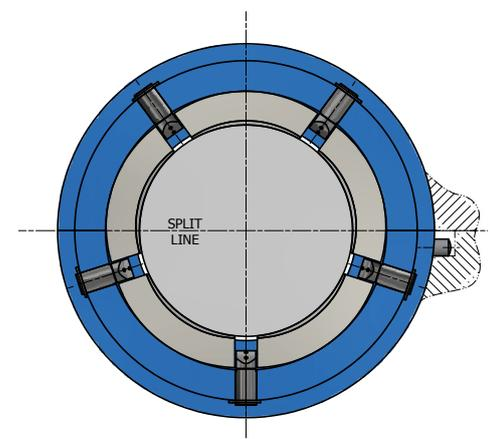

Fig 8 Two-pad orientation – Style BP
- a. Direction of load** – the load capacity of a tilting pad radial bearing is affected by the direction of the load relative to the pad positions. In the Size Tables the nominal load capacity is given for the two common orientations – ‘load on pad’ and ‘load between pads’. Note that for maximum load capacity with a vertically downward load, bearings can be supplied with two pads at the bottom (Style BP) as shown in Fig 8 (see Pg. 15).
This style – see Fig 8 – may be required either for maximum load capacity with a vertically downward load (see Pg. 10) and/or for its particular stiffness and damping characteristics.